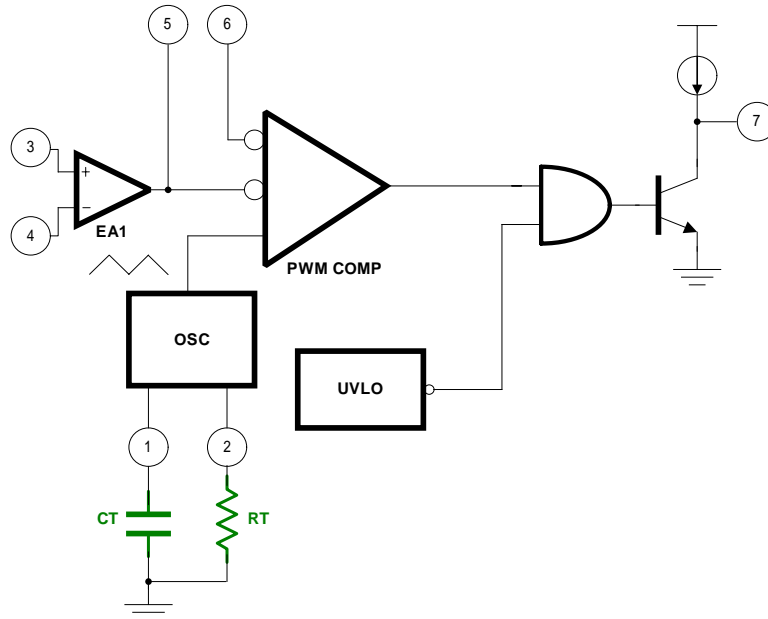
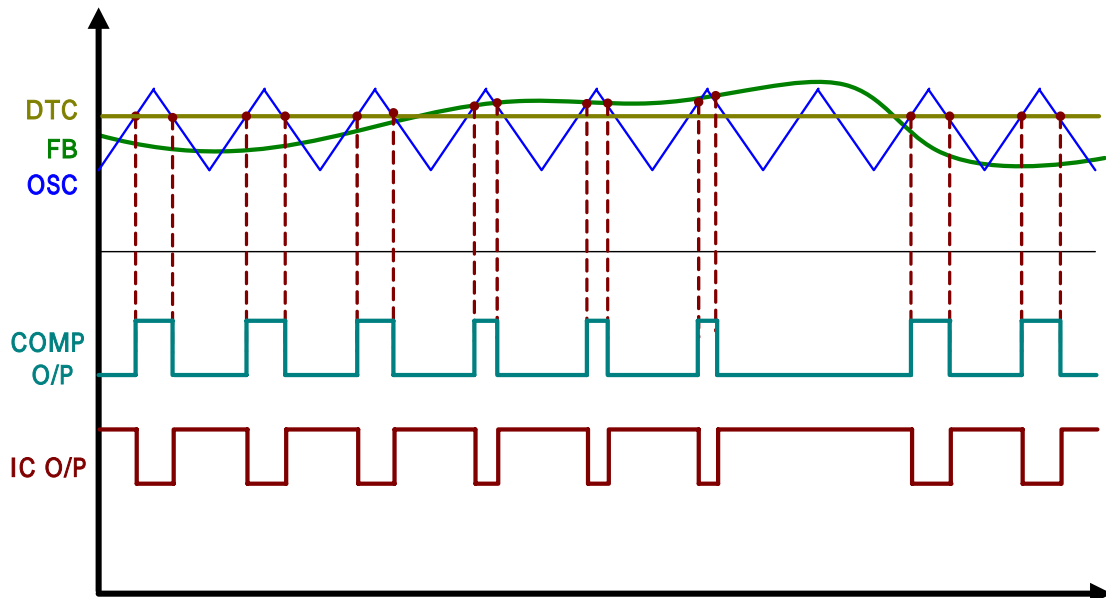

Figure 21 Oscillator/PWM Comparator with Frequency RC circuits
Figure 22 FP5462 Timing Waveforms
The oscillator frequency can be decided from 20KHz to 500KHz by the resistor (RT) and capacitor (CT) which are connected with pin1 and pin2 of **FP5462**, a sawtooth waveform would compare with feedback signal of the error amplifier and dead-time control voltage, the figure 21 is the relationship of oscillator, error amplifier and PWM comparator, and figure 22 is the waveforms of **FP5462**.